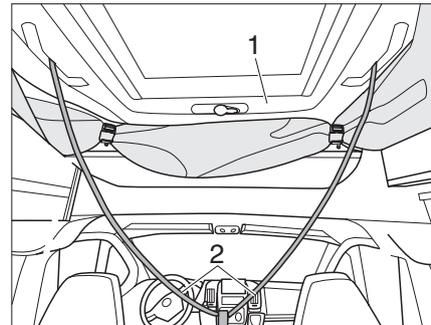

Fig. 58 Closing the pop-up roof
The pop-up roof (Fig. 58,1) is pushed upwards by the gas springs.
- ▶ Hold the pop-up roof by the auxiliary belts (Fig. 58,2) and move it upwards in a controlled manner against the pressure of the gas springs.
- ▶ Pull the pop-up roof (Fig. 58,1) down with the auxiliary straps (Fig. 58,2) attached to both handles until the pop-up roof stops by itself. The side feeders must bend inwards when closing.